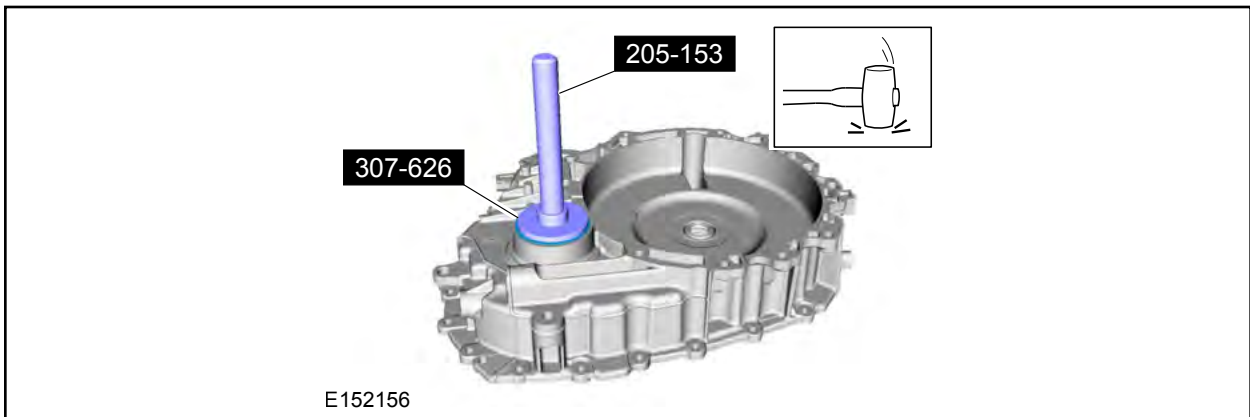

FIGURE 34
29. Using the special tool, install the *new* RH halfshaft seal. See Figure 34.